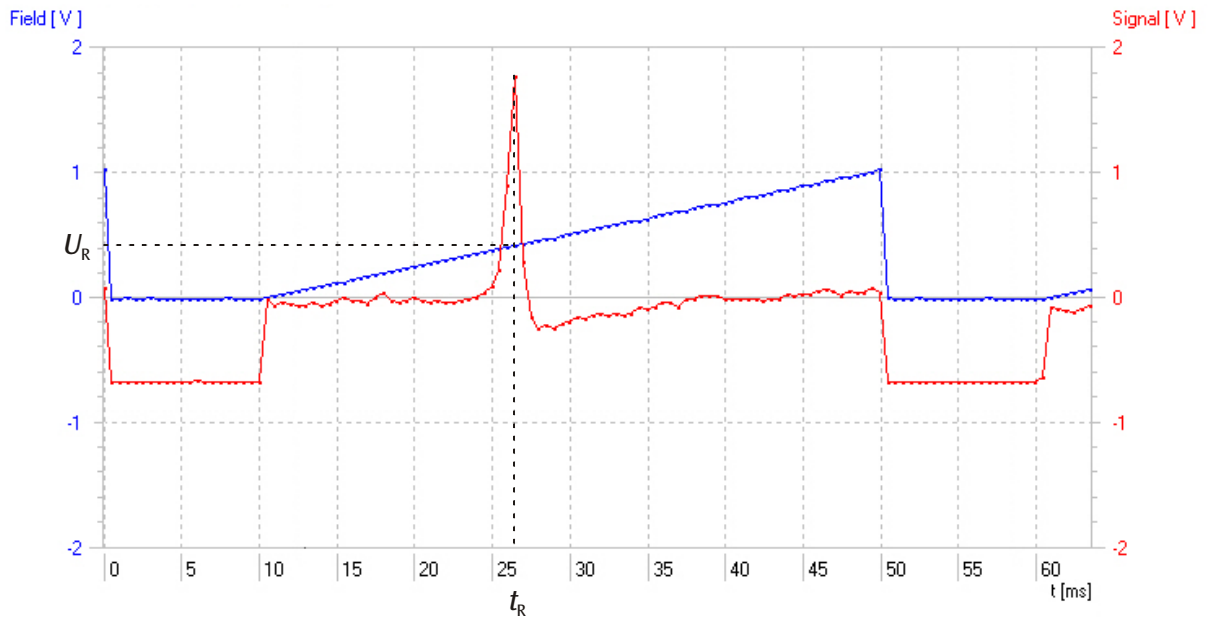

Fig. 6 Signal trace at 40 MHz (red: absorption signal as a function of time, blue: coil voltage as a function of time)
- Note down the resonance voltage of the coil  $U_R$  and the corresponding resonant frequency  $\nu_R$  (see Fig. 6).